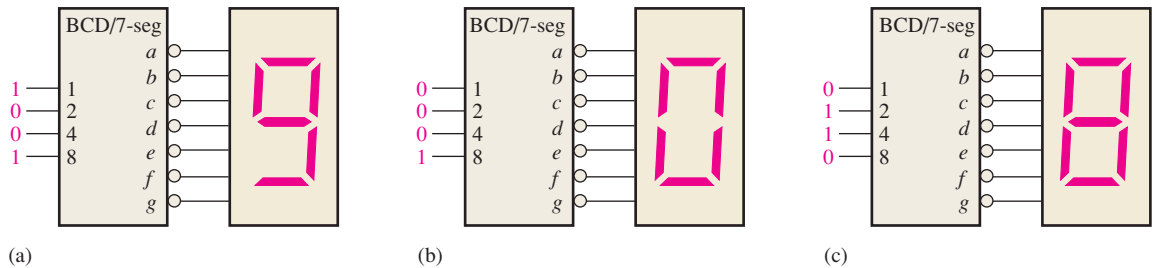

FIGURE 6–85
35. List the possible faults for each decoder/display in Figure 6–85.
36. Develop a systematic test procedure to check out the complete operation of the keyboard encoder in Figure 6–39.
37. You are testing a BCD-to-binary converter consisting of 4-bit adders as shown in Figure 6–86. First verify that the circuit converts BCD to binary. The test procedure calls for applying BCD numbers in sequential order beginning with 0_{10} and checking for the correct binary output. What symptom or symptoms will appear on the binary outputs in the event of each of the following faults? For what BCD number is each fault *first* detected?